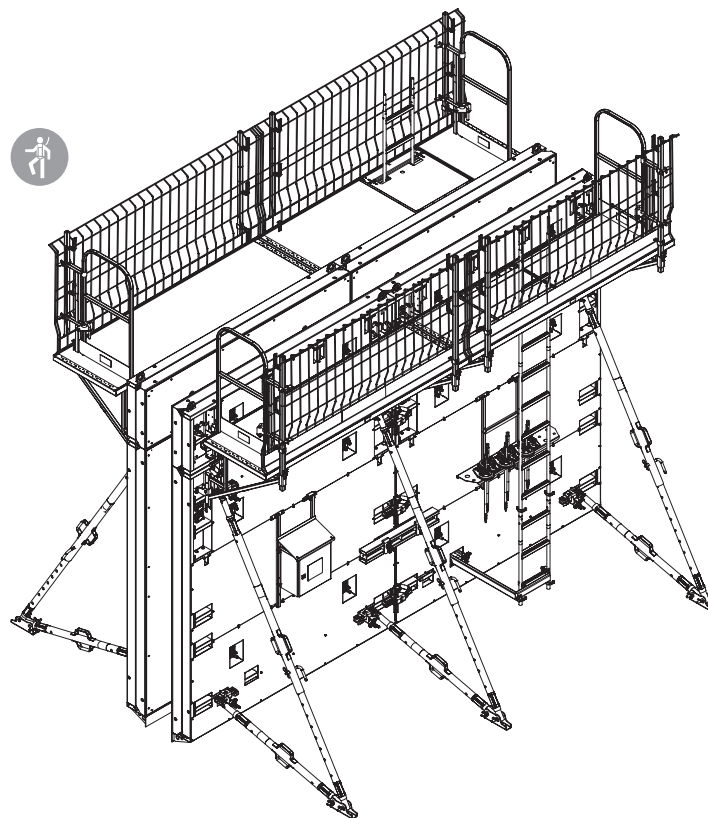

Fig. B6.03
- Erect the closing formwork in the same way. (Fig. B6.03)